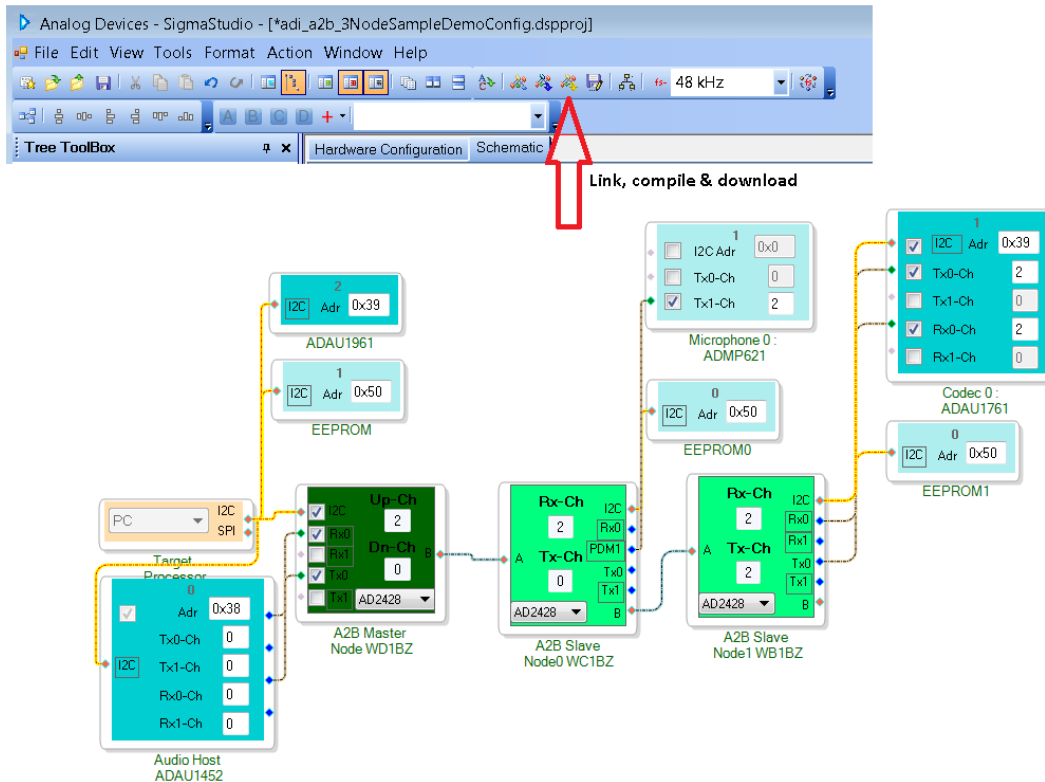
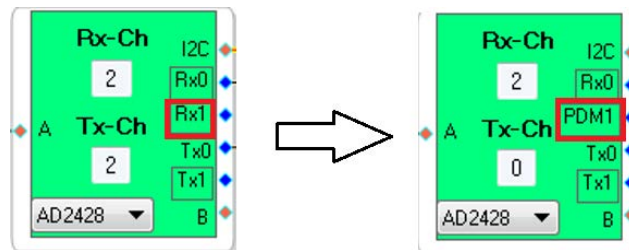

Figure 2. Software Schematic for `adi_a2b_3NodeSampleDemoConfig.dspproj` A²B Example Project
Figure 5. Changing AD2428W Pin Function from DRX1 to PDM1
- Open the `adi_a2b_3NodeSampleDemo.dspproj` example project, which is located in the (default) `C:\Analog Devices\ADI_A2B_Software-Rel19.3.0\Schematics\BF\A2BSchematics` directory. Click the *Link-Compile-Download* icon, as shown in Figure 2.
- Before running the demo, follow the Hardware Setup for a 3-Node A²B System guidance. The sample demo configuration appears as shown in Figure 2. The audio source connected to the slave1 EVAL-AD2428WB1BZ board plays out of the headphones connected to the master EVAL-AD2428WD1BZ board. The microphone audio from the slave0 EVAL-AD2428WC1BZ board plays out of the slave1 EVAL-AD2428WB1BZ board.
7. To test the PDM microphones on the slave1 EVAL-AD2428WB1BZ board, make the connections shown in Figure 2. Click on *RX1* in the A²B cell to change the input to PDM, as shown in Figure 5.